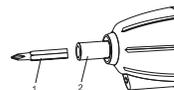

Figure 2
2. Insert the screwdriver bit (1) fully into the screwdriver collet (2) (Fig. 2).